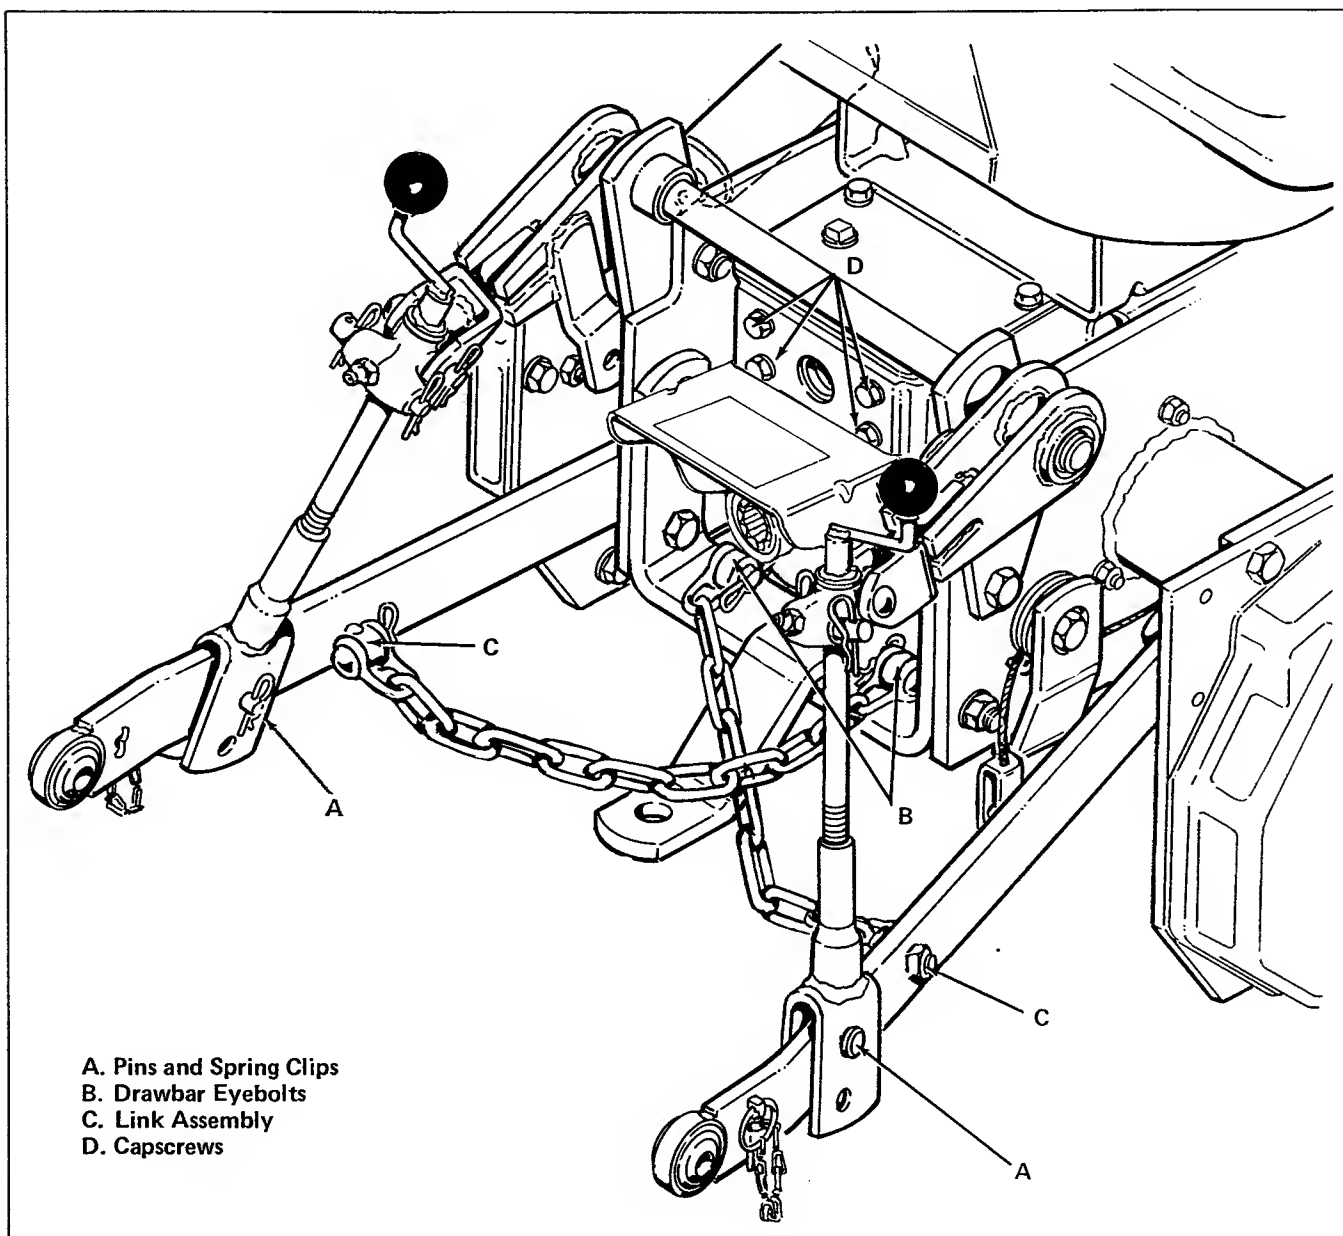

Figure 10. Pull Link Assembly
17. Attach the pull link assembly to the lift link using two pins and spring clips (item A, figure 10). Fasten retaining chains to top of tractor drawbar with eyebolts (item B). When turning the locknuts, allow enough clearance between the nut and drawbar so the eyebolts will be free to turn in drawbar holes.
19. Remove four capscrews (item D, figure 10) from tractor transmission.